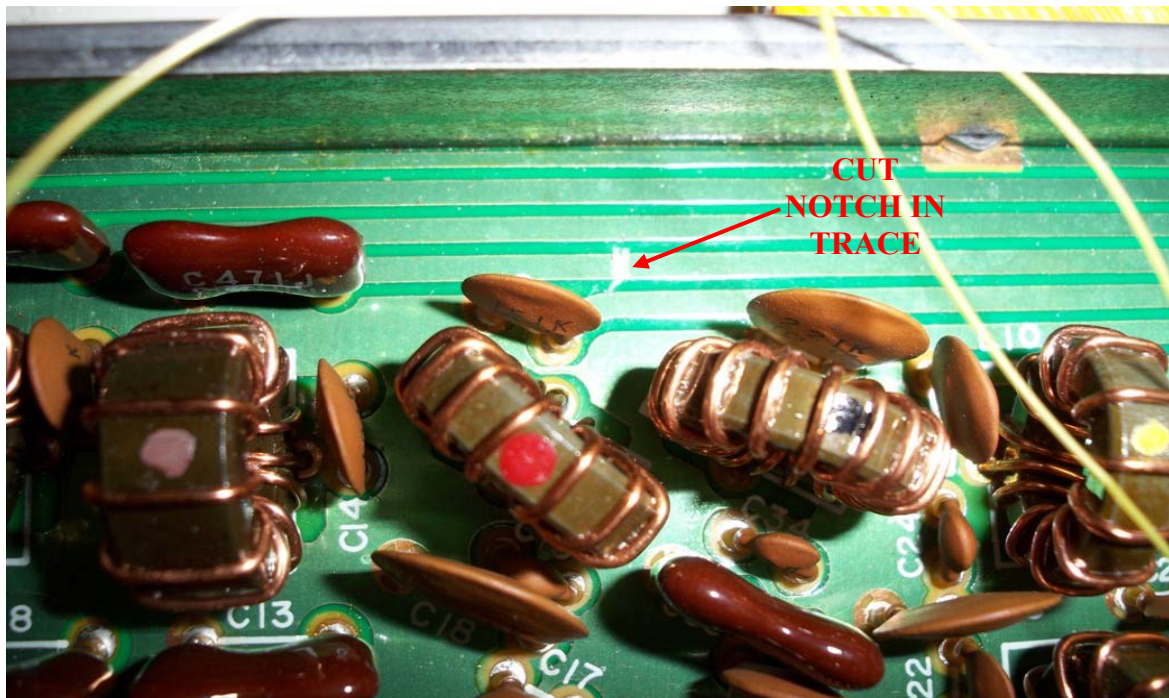

Figure 3. Notch made in PCB trace to accommodate new placement of L15.
- 5) Make a notch in PCB trace as shown in Figure 3. Clear top of PCB on both sides of the notch to expose bare copper on PCB. L15 will be soldered here.